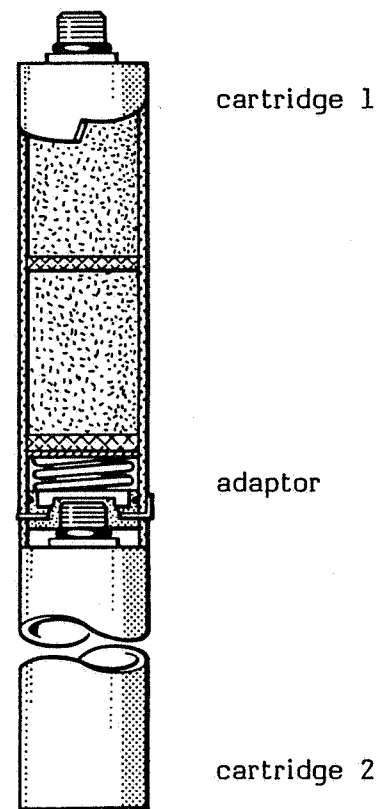

Fig. 5.6 Mounting cartridges
- Unscrew cartridges and replace by new ones. Two cartridges are screwed in after each other (Fig. 5.6). On the bottom of each drying filter cartridge there is an adaptor with inner thread.